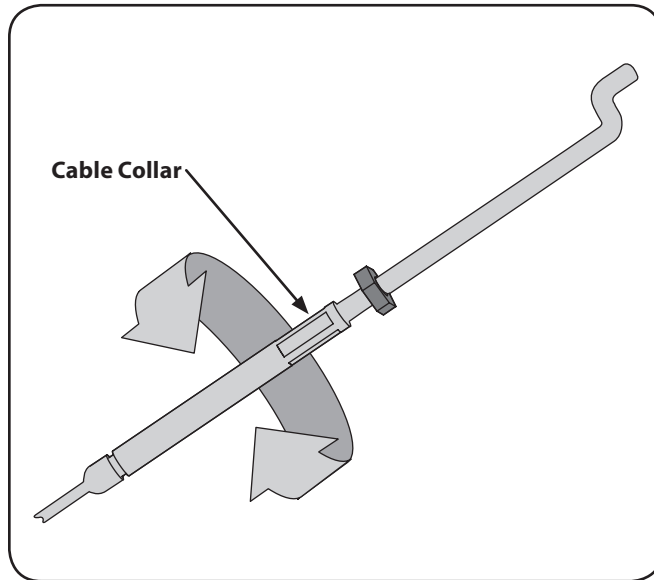

Figure 6-3
3. Turn the cable collar section one or two turns to increase or decrease tension on the cable. See Fig. 6-3.